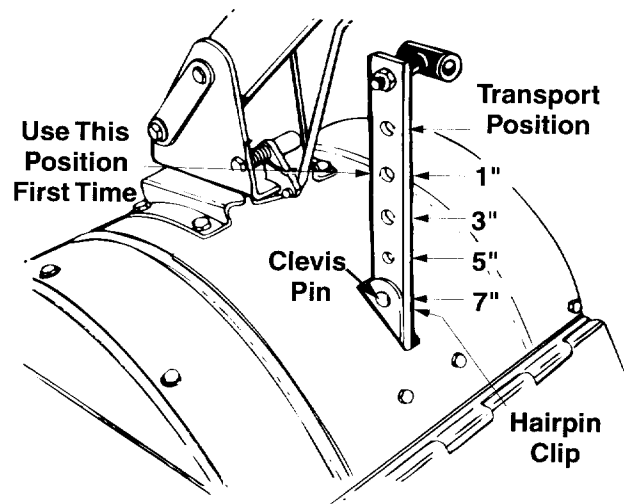
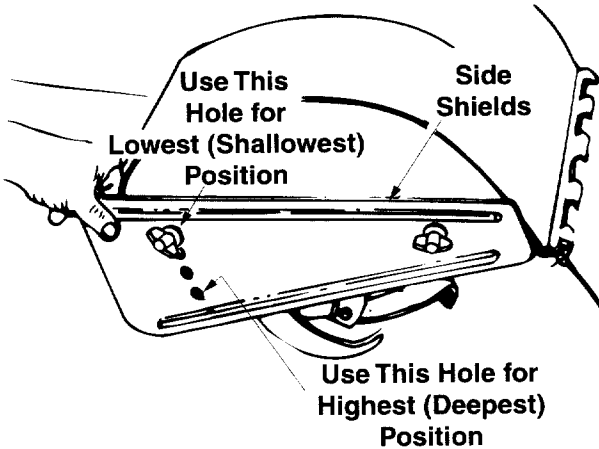

Figure 17
Figure 18
WARNING: When operating the tiller for the first time, use the depth stake setting that gives 1 inch of tilling depth (second hole from the top). See Figure 17.
Tilling depth is controlled by the depth stake which can be adjusted to five different settings. See Figure 17. Adjust the side shields as shown in Figure 18, as you adjust the depth stake. Be certain spark plug wire is disconnected and grounded against the engine.
1. When using the tiller for the first time, use the second adjustment hole from the top (1" of tilling depth). See Figure 17.
5. To adjust the depth stake, remove the clevis pin and hairpin clip. See Figure 17. Move the depth stake to the desired setting.
6. To adjust the side shields, remove the wing nuts. See Figure 18. Place side shield in position desired. Replace wing nuts and tighten securely.